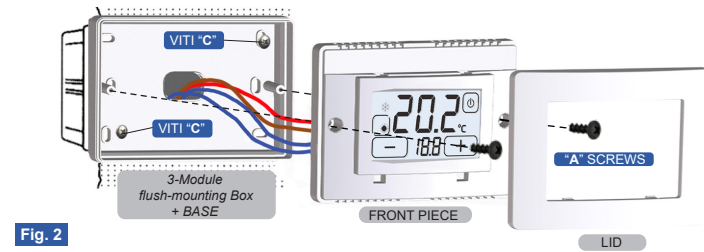

Fig. 2
- 4 • Fix the **FRONT PIECE** to the **BASE** using the supplied type "A" SCREWS (Fig.2).